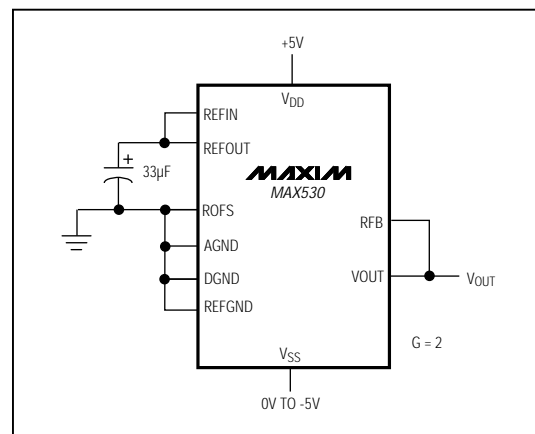

Figure 10. Unipolar Configuration (0V to +4.096V Output)
A 0V to 4.096V unipolar output range is set up by connecting ROFS to AGND and RFB to VOUT (Figure 10). Table 4 shows the DAC-latch contents vs. VOUT. The MAX530 operates from either single or dual supplies in this mode. In this range, $1\text{LSB} = (2)(\text{REFIN})(2^{-12}) = (\text{REFIN})(2^{-11})$.